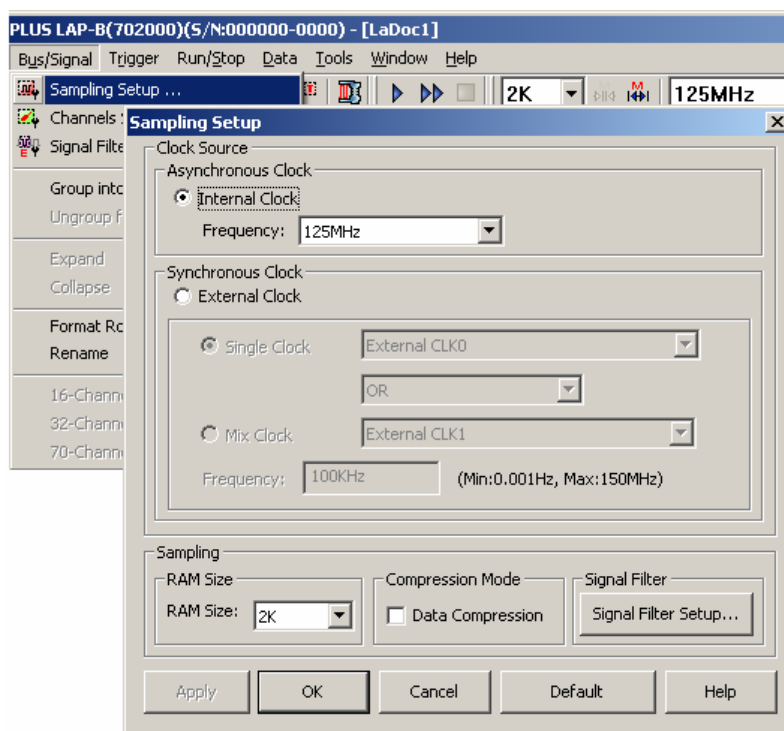

Fig 4-1 – Sampling Setup
Step 6. Click  icon or click **Sampling Setup** from **Bus/Signal** on the menu bar, the dialog box as shown in Fig 4-1 will appear.